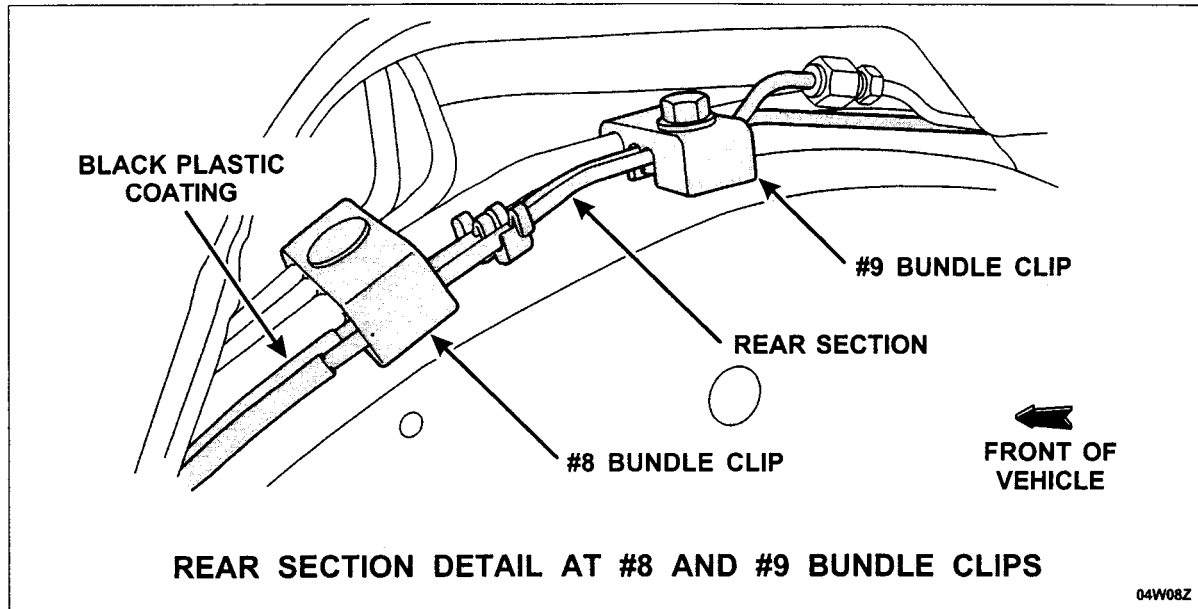

FIGURE 26
- f) Inspect the area of the **new** brake tubes where the #8 bundle clip was originally located on the frame. The black plastic coating on the brake tubes will interfere with installation of the #8 bundle clip. Avoid installing the clip over the plastic coating by positioning the clip rearward a few millimeters. DO NOT trim the plastic coating. Damage to the corrosion protection beneath the plastic coating may occur. See Figure 26.